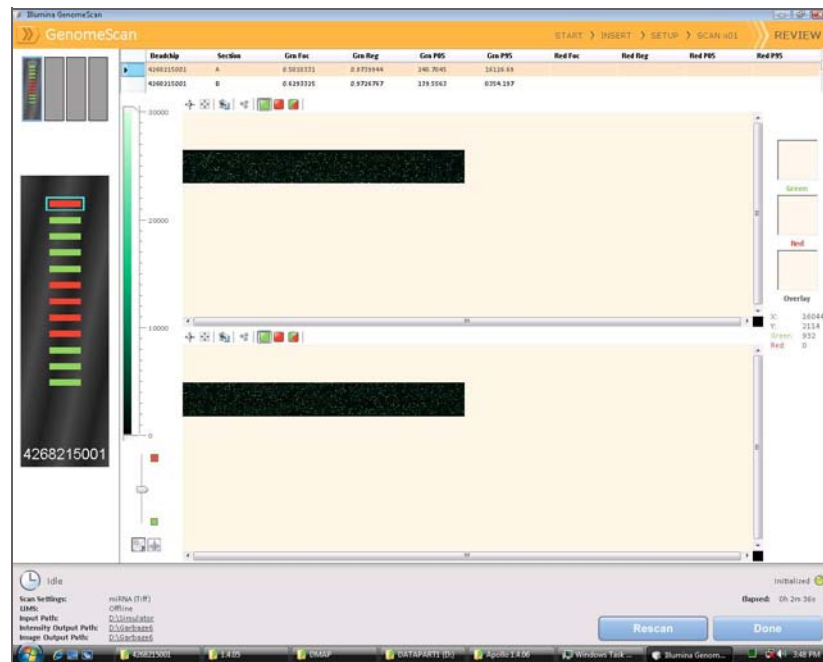

Figure 77 Review Window with Failed Stripes
5. At the end of the scan, a Review window appears (Figure 77). The Scan Metrics table at the top shows the intensity values, registration, and focus metrics for each stripe on the BeadChip.